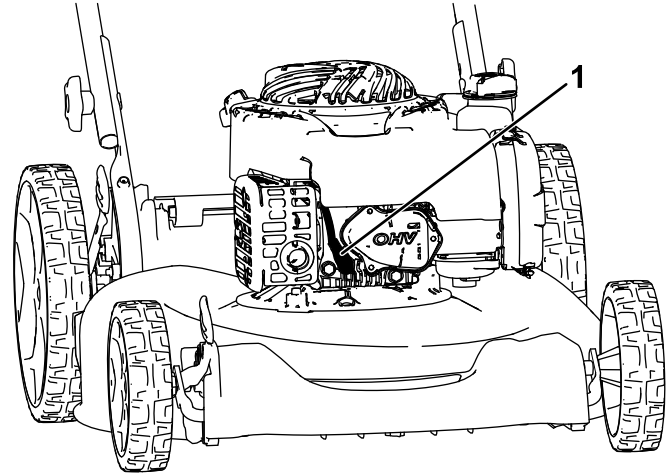

Figure 15
2. Disconnect the spark-plug wire from the spark plug (Figure 15).